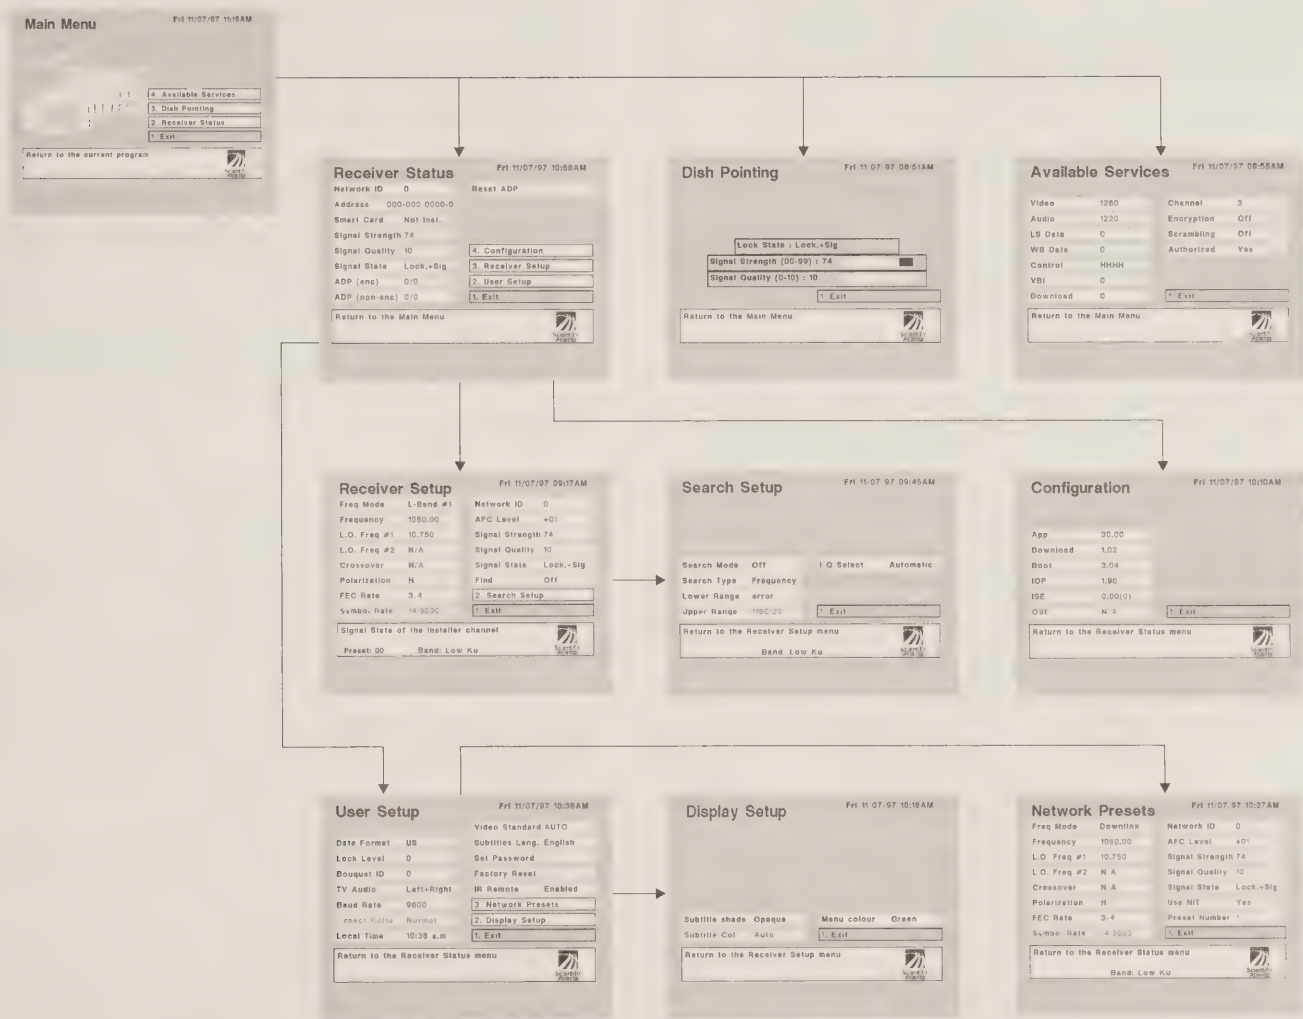

Figure7. Menus at-a-glance
- Step 1. Display the Main Menu (see Figure 7).